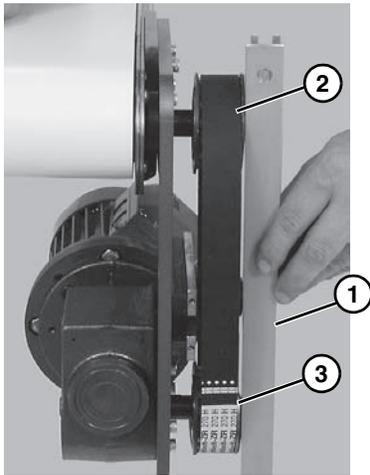

**Figure 8**
5. Install key (**Figure 8, item 1**).
6. Wrap timing belt (**Figure 8, item 2**) around driven pulley (**Figure 8, item 3**) and drive pulley (**Figure 8, item 4**). Install driven pulley onto conveyor shaft.